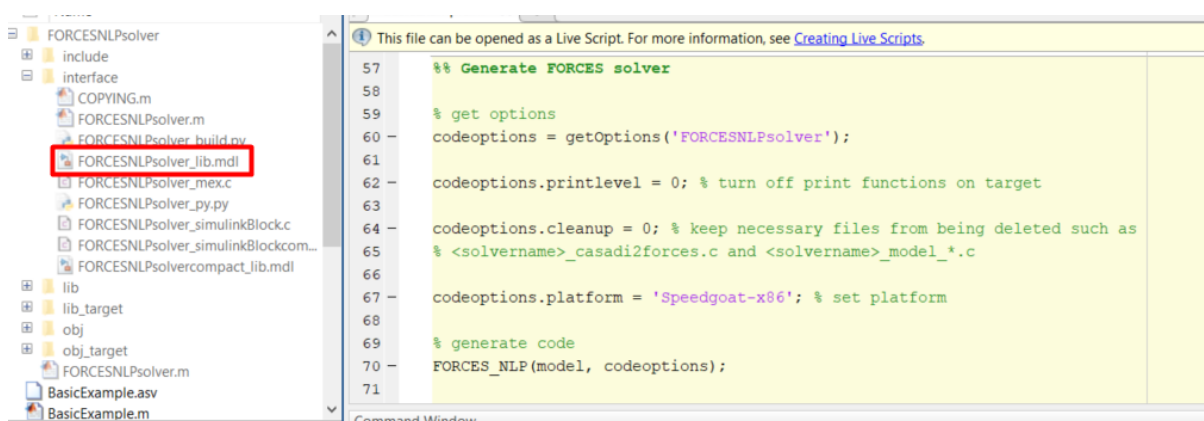

Figure 13.64: Open the generated Simulink solver model.
5. (Figure 13.64) Open the FORCESNLPsolver_lib.mdl Simulink model file, contained in the interface folder of the FORCESNLPsolver folder created during code generation.